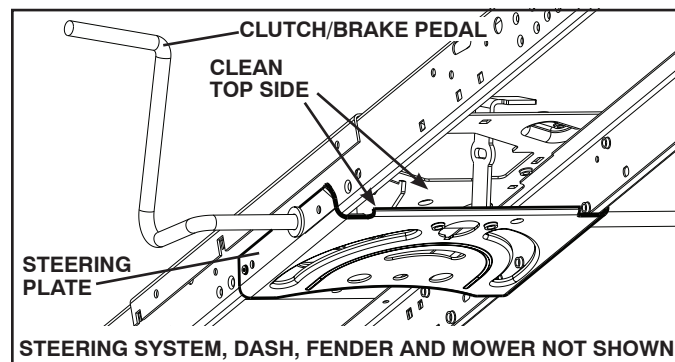

Fig. 20
- Clean debris from steering plate. Debris can restrict clutch/brake pedal shaft movement, causing belt slip and loss of drive. See Fig. 20.